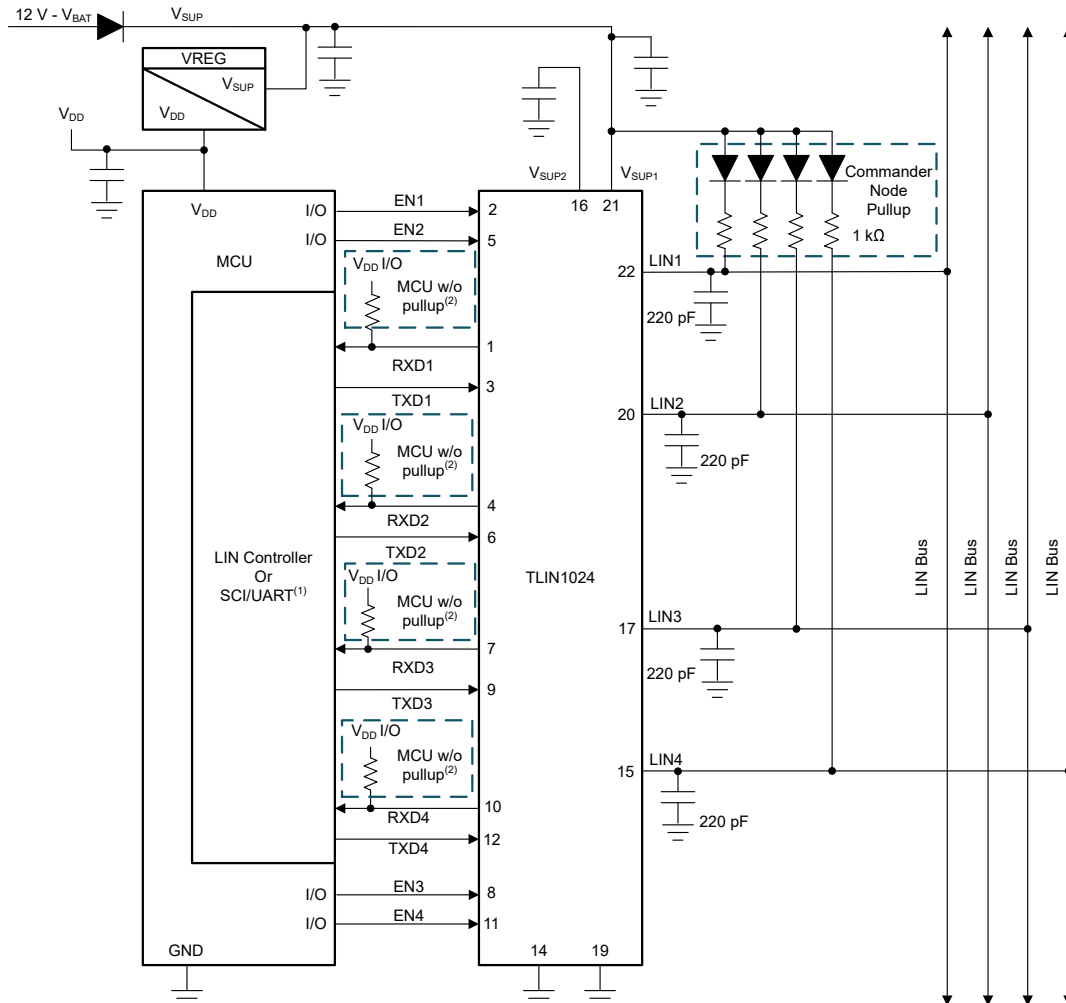

图 8-1. Typical LIN Bus
The device comes with an integrated 45 kΩ pull-up resistor and series diode for responder applications. For commander applications, an external 1 kΩ pull-up resistor with series blocking diode can be used. 图 8-1 shows the device being used in both commander and responder applications.
- Pin 13, 18, 23 and 24 (NC):** Not Connected
- Pins 22, 20, 17 and 15 (LIN1/2/3/4):** This pin connects to the LIN bus. For responder applications a 220 pF capacitor to ground is implemented. For commander applications an additional series resistor and blocking diode should be placed between the LIN pin and the $V_{SUP1/2}$ pin. See 图 8-1.